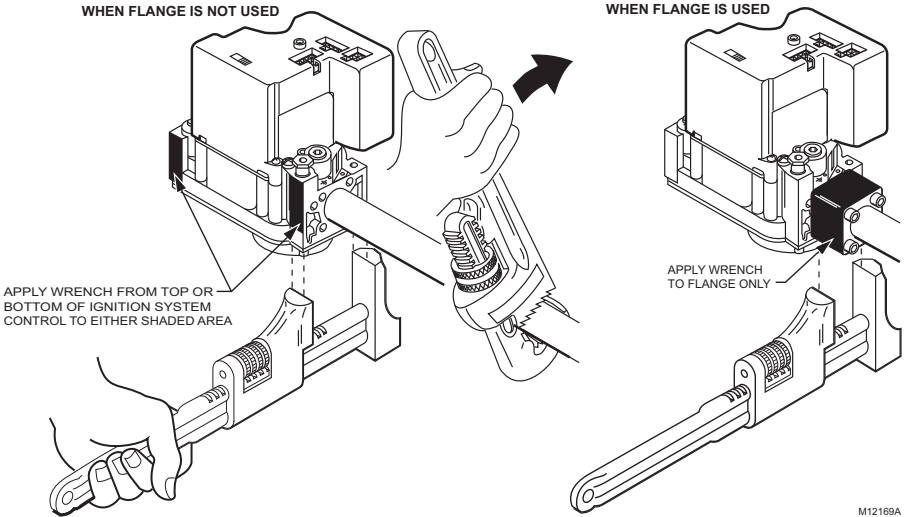

Fig. 5. Proper use of wrench on ignition system control with and without flanges.
Complete the instructions below for installing the piping, installing the control, and connecting the pilot tubing and wiring. Make sure the leak test you perform on the control after completing the installation includes leak testing the adapters and screws. If you use a wrench on the valve after the flanges are installed, use the wrench only on the flange, not on the control. See Fig. 5.
6. Connect the pipe to the ignition system control inlet and outlet. Use a wrench on the square ends of the ignition system control. If a flange is used, place the wrench on the flange rather than on the ignition system control. Refer to Fig. 5.